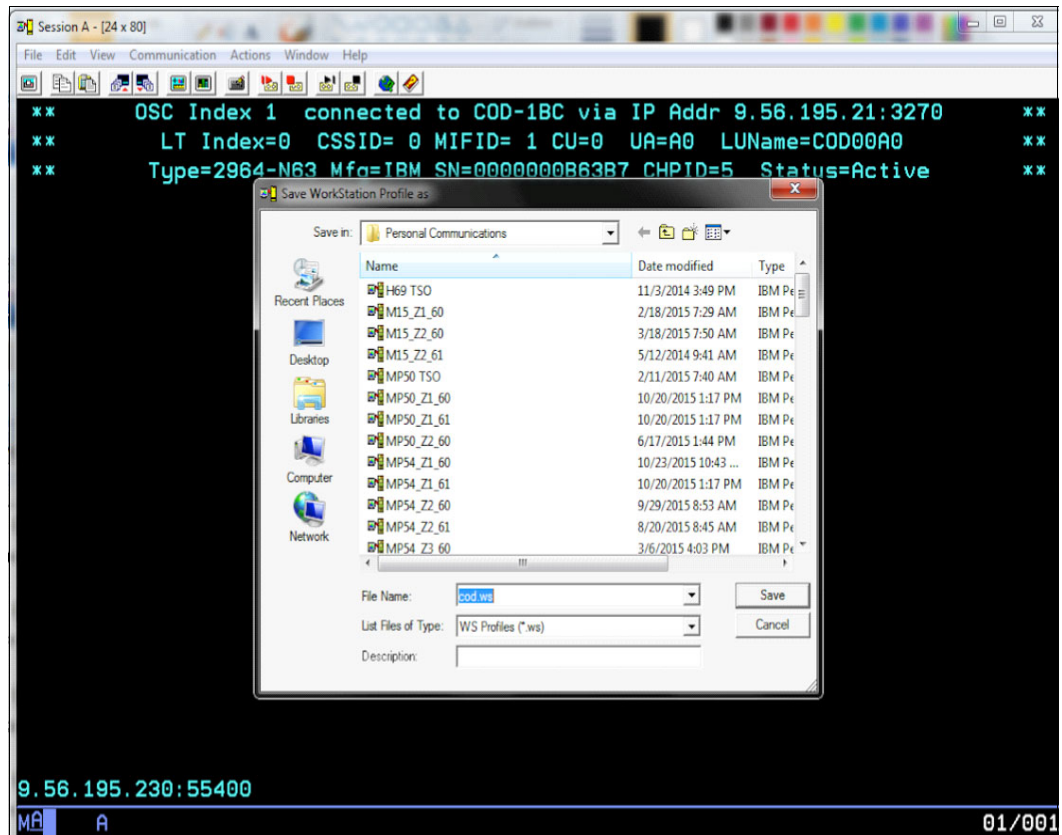

Figure 7-25 OSA-ICC sessions and Save Profile Name
8. The Customize Communication panel is displayed. We click **OK** and the OSA-ICC session is displayed, as shown in Figure 7-25.